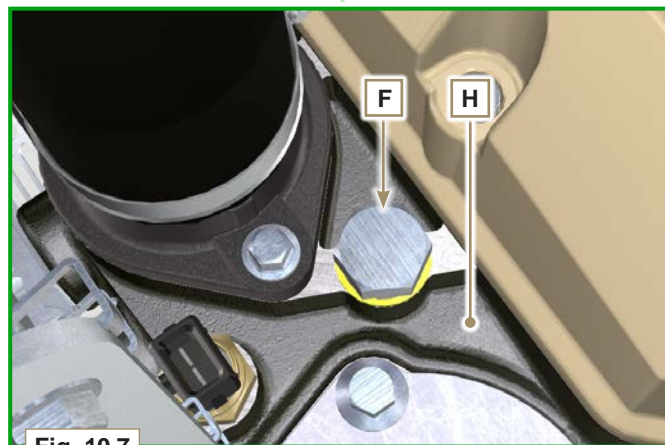

Fig. 10.7
- 5 - Loosen the screw **F** on the head **G**, release any air and tighten the screw (**Fig. 10.7**); Tightening torque: